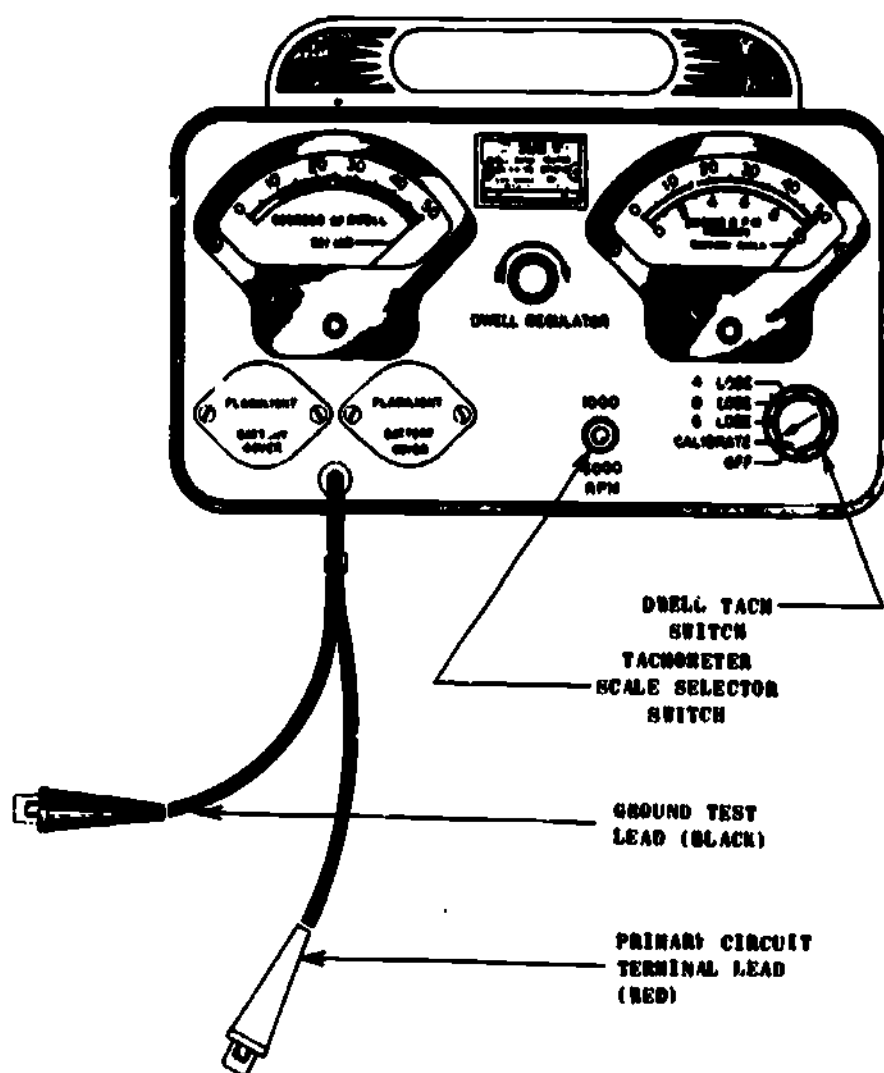

Fig 1-24. Dwell-tach tester (Sun).
- (4) Dwell-tach tester (fig 1-24). The dwell-tach tester is used to measure the dwell angle and the rpm of an engine that has a spark ignition. One lead (normally red) is connected to the primary ignition circuit at the closest place to the contact points and the other lead is connected to ground. Some testers have only one meter for reading both dwell angle and rpm. Other testers, such as the Sun Dwell-Tach (fig 1-24), have a meter for reading dwell angle and a meter for reading rpm. The testers that use batteries have a control for calibrating the tester before each use. If the tester cannot be calibrated, the batteries should be replaced. Testers without an internal power source are usually calibrated by turning a screw at the pivot point of the pointer needle. The adapter kit is used with the testers on magnetos and distributors with shielded systems.